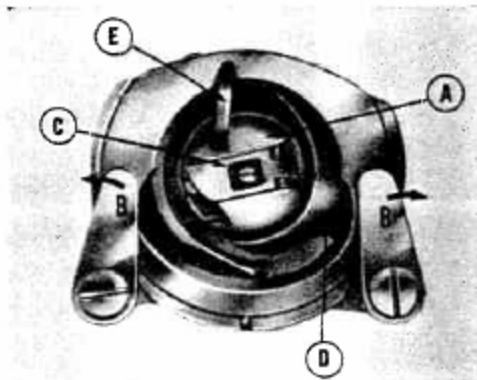

Fig. 31
(See Figs. 31 and 32)
2. Remove bobbin case (A), Fig. 31.
3. Turn the two shuttle race cover clamps (B) outward and remove the shuttle race cover (C) and shuttle body (D).